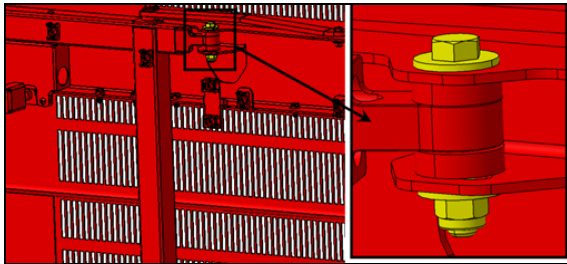

FIGURE 54
6. If the longitudinal position is out of tolerance, adjust using the adjustment provided on the inner side of the door, at the upper attachment point of the arm on the door (FIGURE 54).